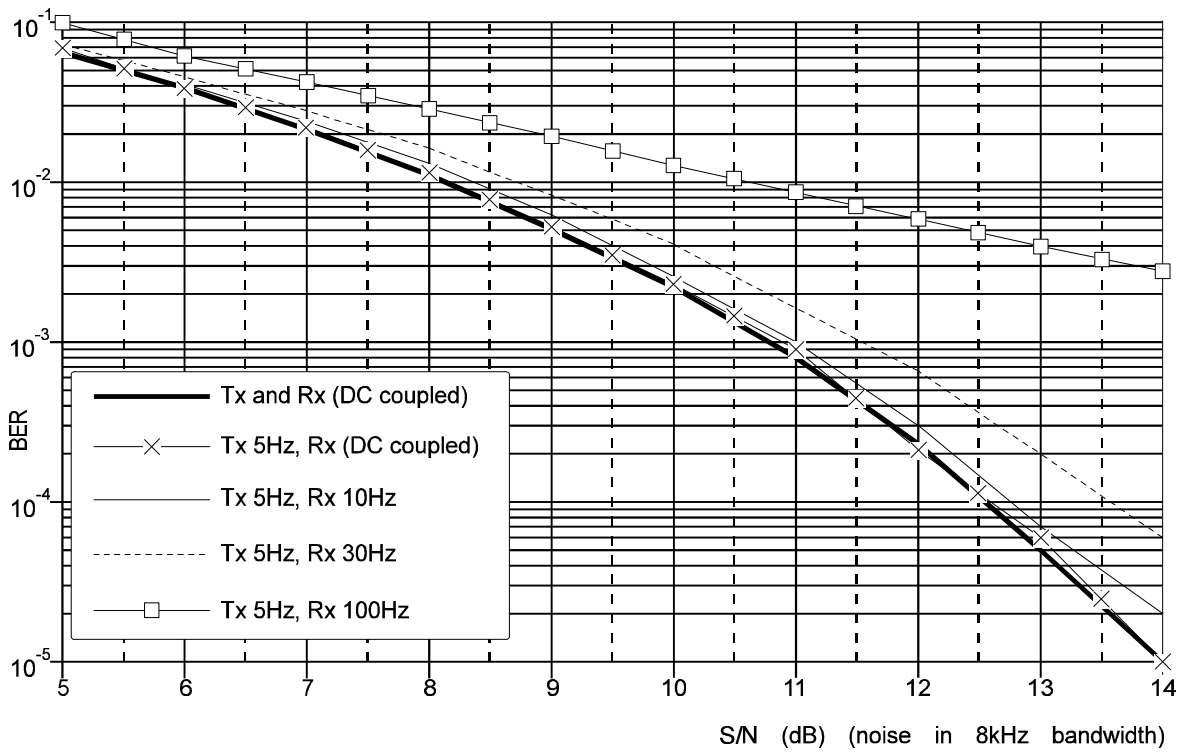

Figure 10 Effect of AC Coupling on Typical Bit Error Rate (8000 bits/sec, BT = 0.3)
- a) AC coupling of the signal will degrade the FX579's bit error rate (BER) performance, as shown in Figure 10 for a data rate of 8kbits/sec, with  $V_{DD} = 5V$  and  $BT = 0.3$ .